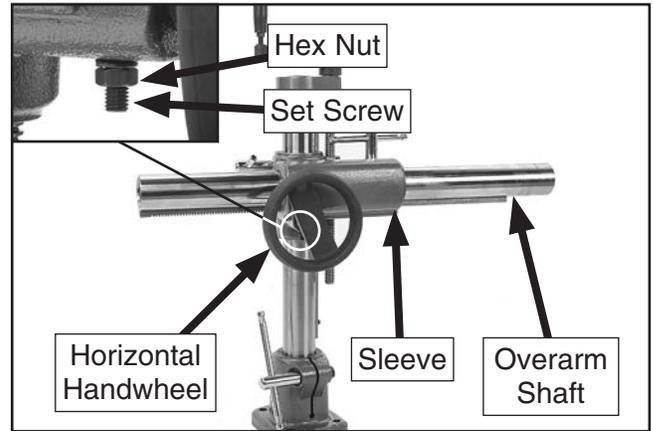

Figure 9. Overarm shaft installed onto vertical column.
2. Loosen hex nut and set screw under horizontal handwheel shown in **Figure 9**, then remove horizontal handwheel.
3. Feed overarm shaft into sleeve of vertical column (see **Figure 9**). Re-install handwheel and engage gears with overarm shaft teeth. Re-tighten set screw and hex nut just enough to secure handwheel.